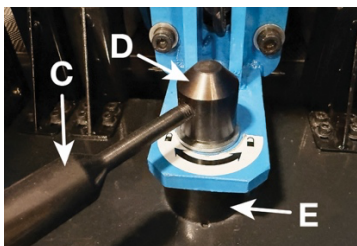

Figure 9-2
4. Move the locking bolt lever (C, Figure 9-2) to the center position and lift the locking bolt/washer (D, Figure 9-2) upward to remove the abrasive belt support base (E, Figure 9-2).